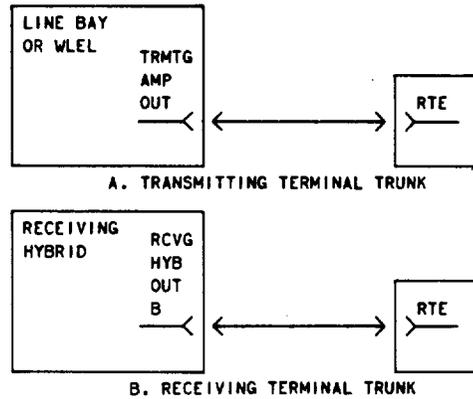

Fig. 1—Suggested Monitoring Points
Monitoring (Fig. 1)
- 3 Connect the RTE to the monitoring point determined in Step 1 (Fig. 1).